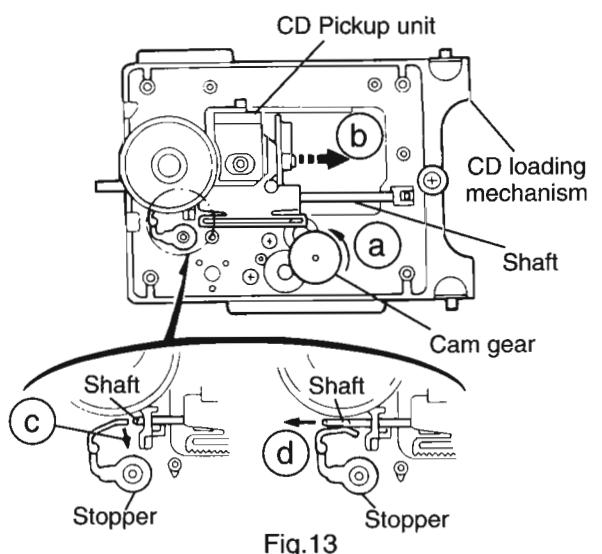

Fig.13
CN803 Fig 13
■ Removing the CD pick unit (See Fig.13)